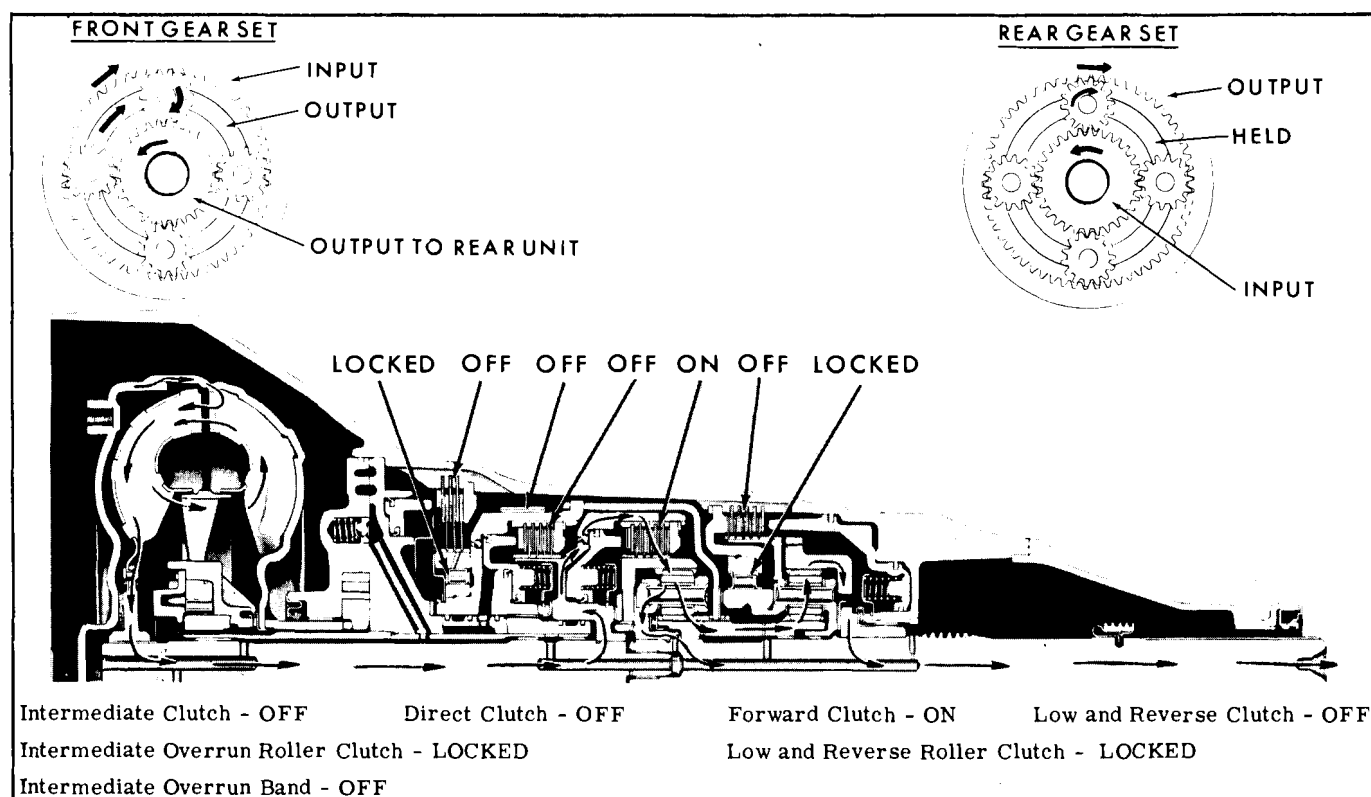

Fig. 7G-7 Operation in Drive Range - First Gear
In Drive (D) range, second gear, the intermediate clutch is applied to allow the intermediate overrun roller clutch to hold the drive shell and sun gear stationary (against counterclockwise rotation). Turbine torque, through the applied forward clutch, is delivered to the input ring gear in a clockwise direction (Fig. 7G-8).